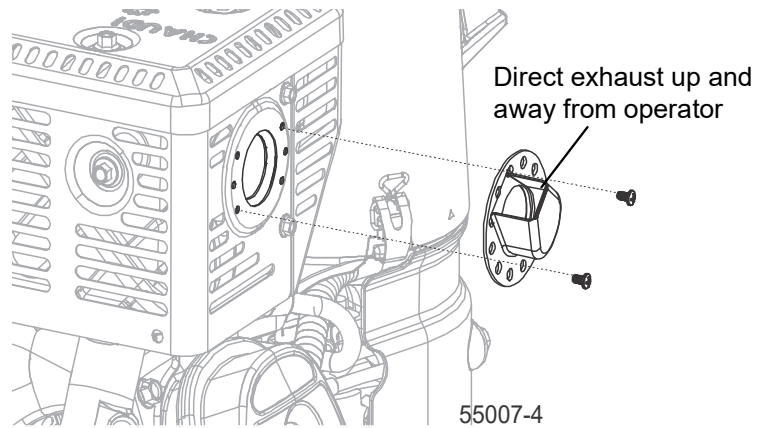

FIG. 3-19
4. Install the exhaust deflector. See Fig. 3-19